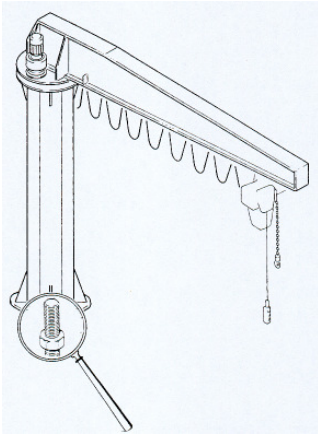

fig.11
- Check that obvious defects of the support/fixing structures are absent (fig.11);